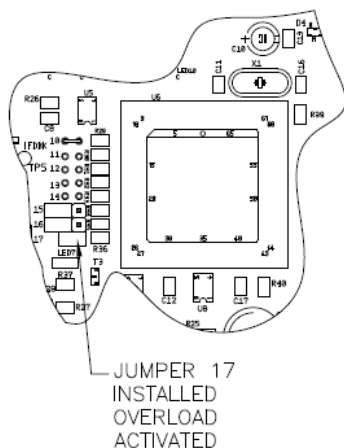

Figure 15: Jumper Location - Overload Activation
2. Place the jumper across the two (2) pins at location 17 on the main PC board (See Figure 15).